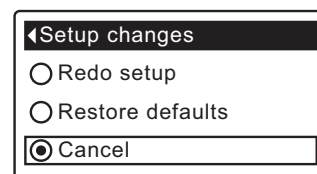

FIG. 89
7. Press the SELECT (O) button to display the Setup changes menu (See Figure 89).
8. If the desired option already has a black dot next to it (See Figure 89), go to Step 9. Otherwise, press the DOWN (▼) or UP (▲) buttons to scroll to the desired option, then press SELECT (O) to choose it.